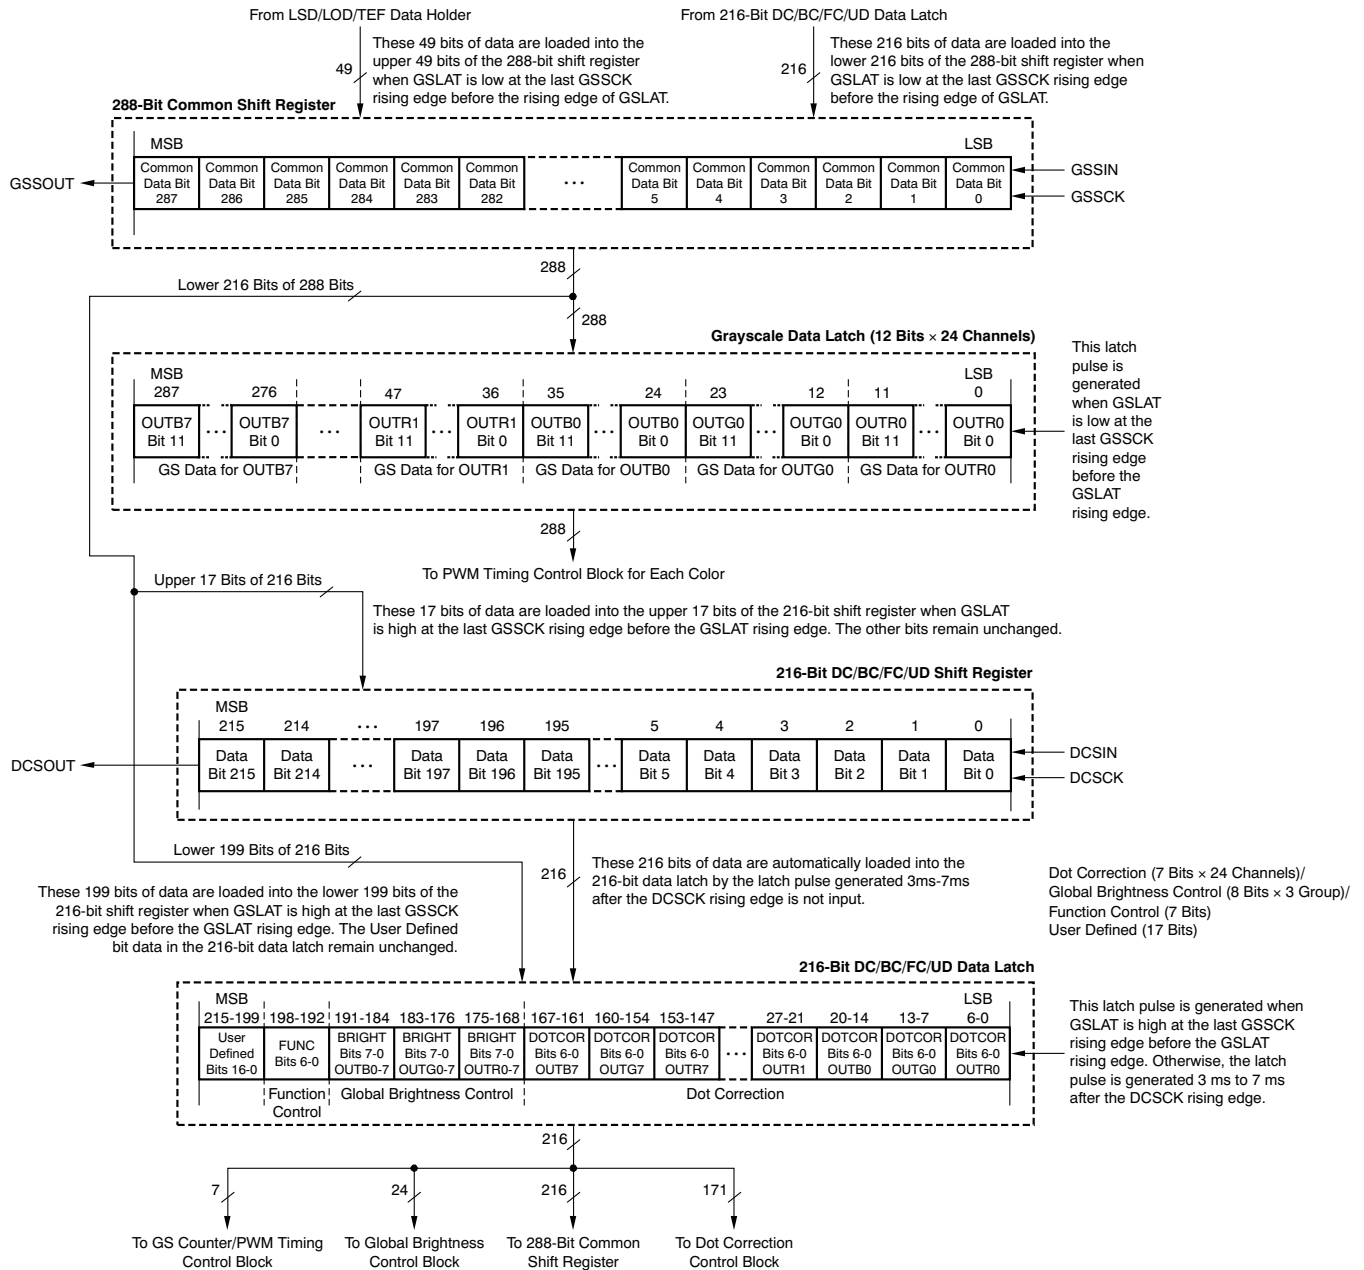

Figure 44. Grayscale Shift Register and Data Latch Configuration
The TLC5951 has two data latches to store information: the grayscale (GS) data latch and the DC/BC/FC/UD data latch. The GS data latch can be written as 288-bit data through GSSIN with GSSCK. The DC/BC/FC/UD data latch can be written as data through DCSIN with DCSCCK. Also, DC/BC/FC data can be written to the DC/BC/FC/UD data latch through GSSIN with GSSCK. UD data are written to the upper 17 bits of the 216-bit DC/BC/FC/UD shift register at the same time. The data in the DC/BC/FC/UD data latch can be read via GSSOUT with GSSCK. **Figure 44** shows the grayscale shift register and data latch configuration.